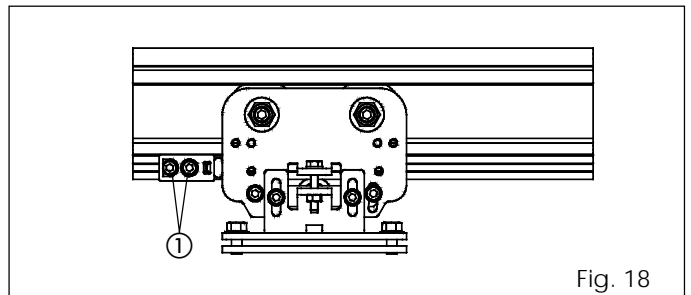

Fig. 18
- Loosen the two hexagon head screws as shown in figures 18 and 19 ref. ①.